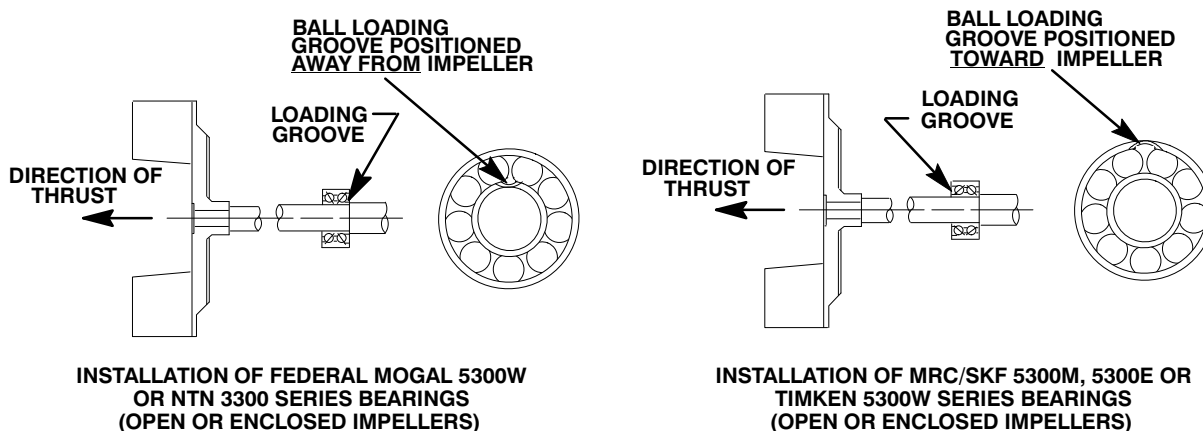

Figure 5. Bearing Positioning
The outboard pinion shaft bearing (35) may be manufactured with a ball loading groove. Check the bearing for a loading groove and its container for the name of the manufacturer. When installed on the shaft, the loading groove (if equipped) **must** face the direction shown in Figure 5.